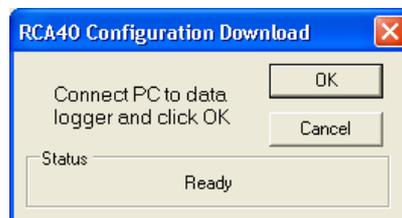

Figure 31 - Configuration Download Dialog
1. Choose **Setup** → **Data Logger** from the main menu. The Configuration Download Dialog (Figure 31) appears.